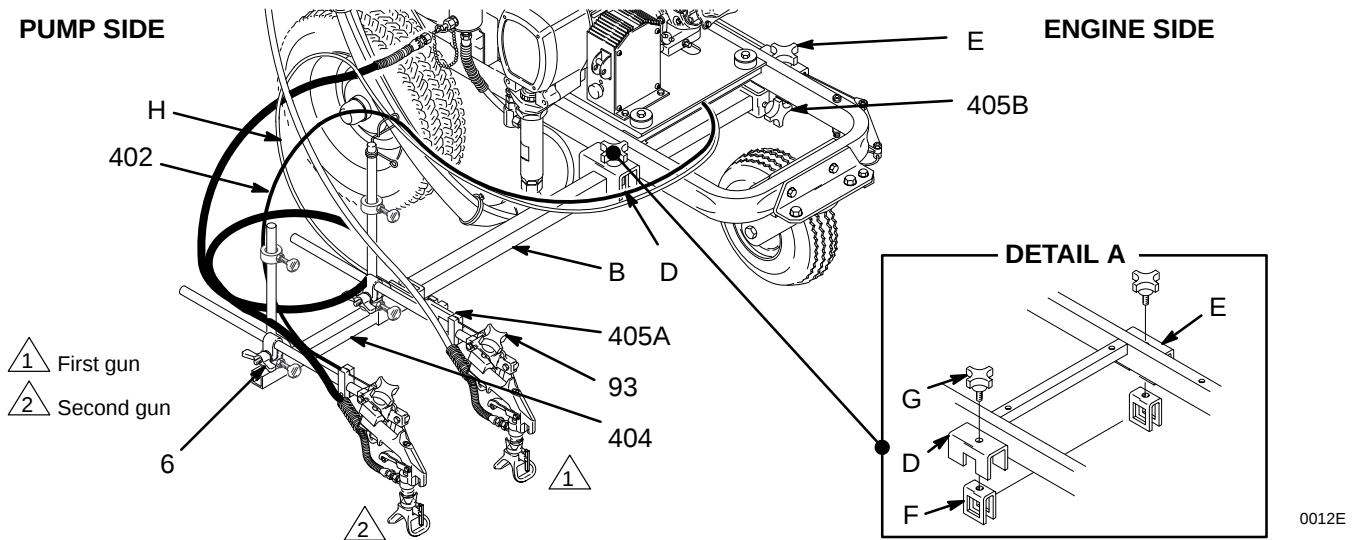
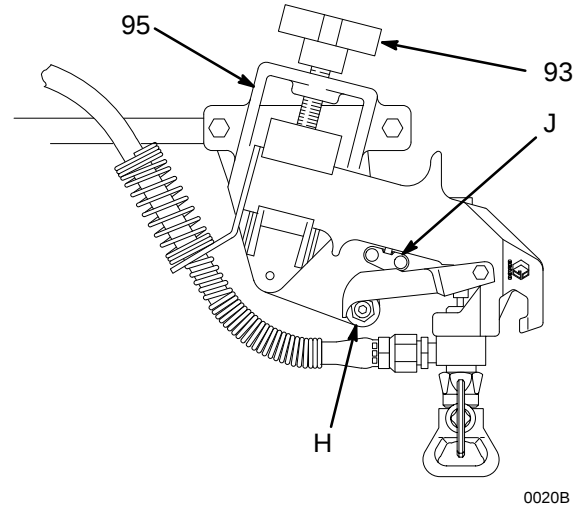

Fig. 3
Fig. 4
1. For both guns, disengage the cable (402, H) and engage the trigger safety lever. See Fig. 4.
2. Loosen the gun holder knobs (93) and remove the guns. Lay the guns out of the way.
3. Remove the knobs (G) on both carriage clamps (D, E); The carriage bar (B) and extension clamps (F) will drop down.
5. Position the carriage bar below the carriage clamps (D, E). Align the holes in the top of the extension clamps (F) with the holes in the carriage bar clamps and install the knobs (G). See Fig. 3, DETAIL A.
6. Loosen the post/arm clamps (6) and rotate the gun arms (G) forward. Tighten the clamps.